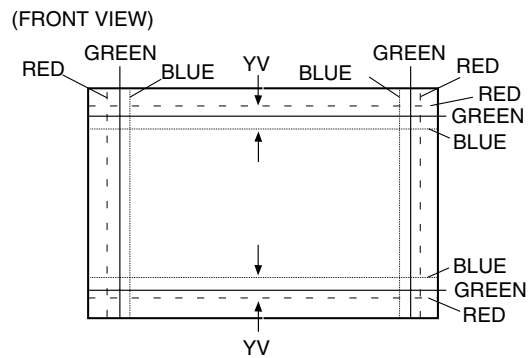

Fig. 9
2. Move the deflection yoke left to right to overlap the lines in the periphery, and match the Yv. (Fig. 9)